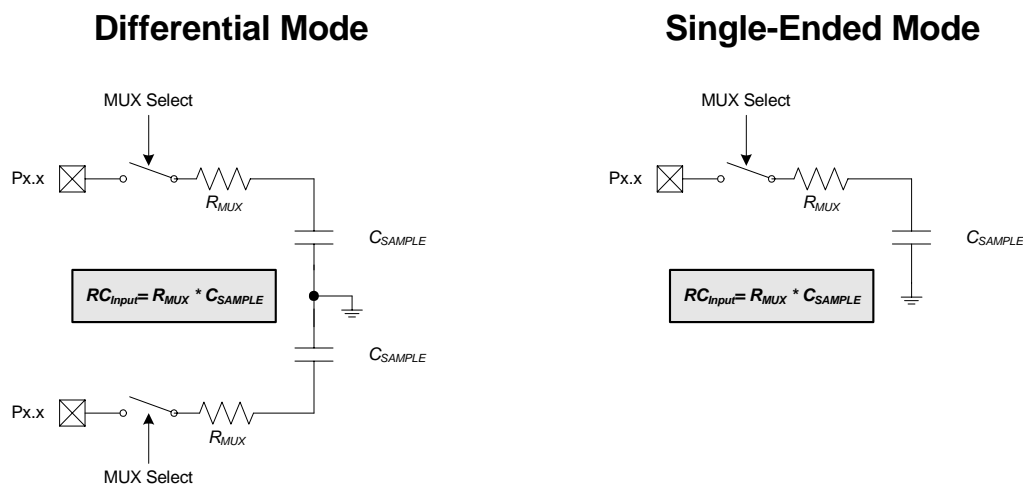

Figure 7.3. ADC0 Equivalent Input Circuits
Figure 7.3 shows the equivalent ADC0 input circuits for both Differential and Single-ended modes. Notice that the equivalent time constant for both input circuits is the same. The required ADC0 settling time for a given settling accuracy (SA) may be approximated by Equation 7.1. When measuring the Temperature Sensor output or V_{DD} with respect to GND, R_{TOTAL} reduces to R_{MUX} . See Section “6. Electrical Characteristics” on page 27 for ADC0 minimum settling time requirements as well as the mux impedance and sampling capacitor values.